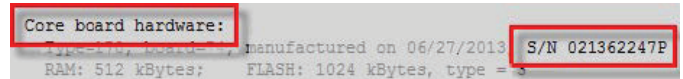

Fig. 13 — Serial Number Sticker
- A Module Status report (Modstat) under *Core or Main board Hardware*. See Fig. 13.